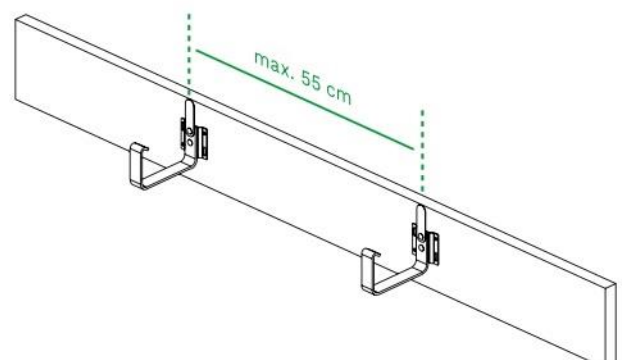

Figure 3
- 2.2 The bracket spacing recommended by the manufacturer is max 55 cm. (Fig. 3).